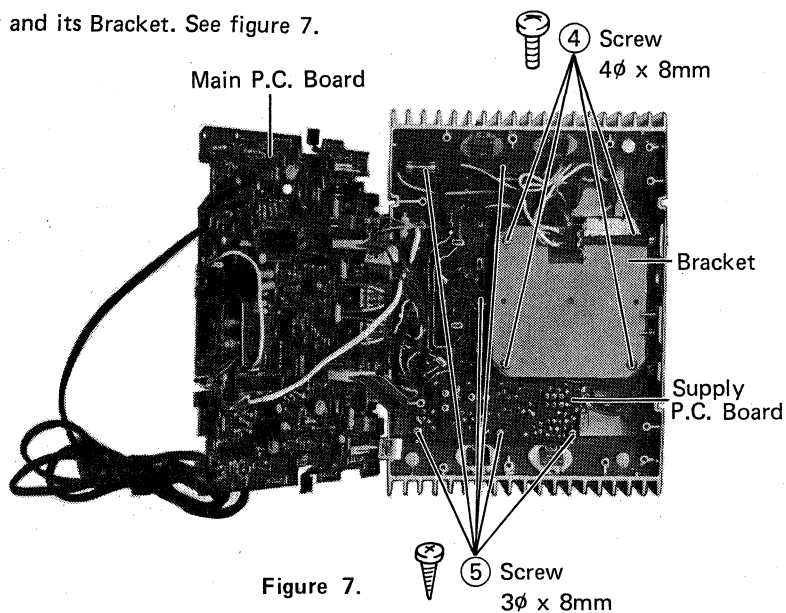

Figure 7.
2. Remove 4 screws ④ securing Power Transformer and its Bracket. See figure 7.
2. Remove 6 Screws ⑤. See figure 7.